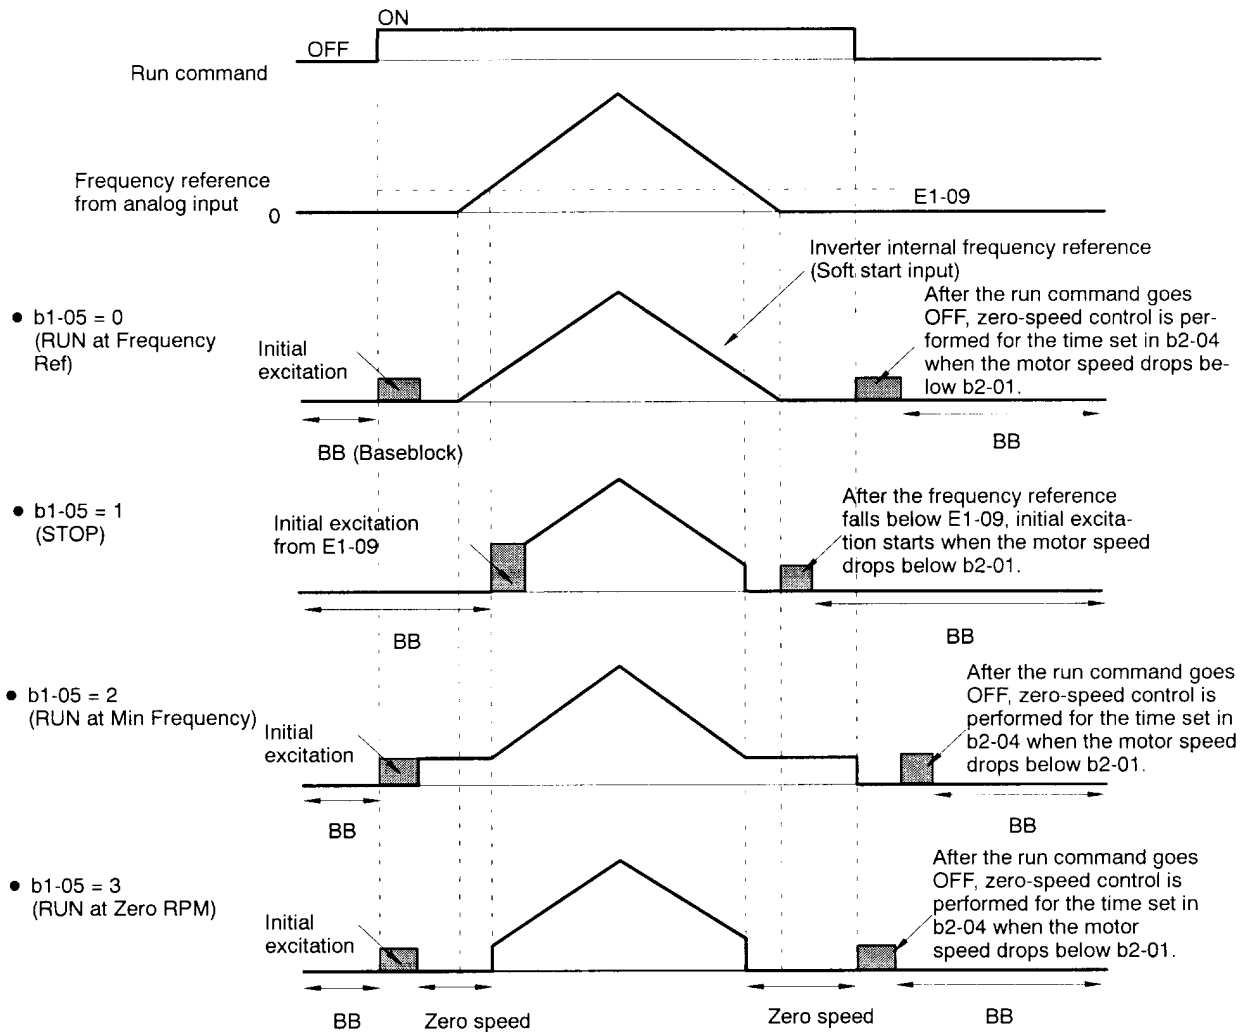

Figure 6.13 Zero Speed Operation Method
- The timing of the initial excitation function depends on the Zero Speed operation method selected in b1-05 (Zero Speed operation), as shown in *Figure 6.13*.